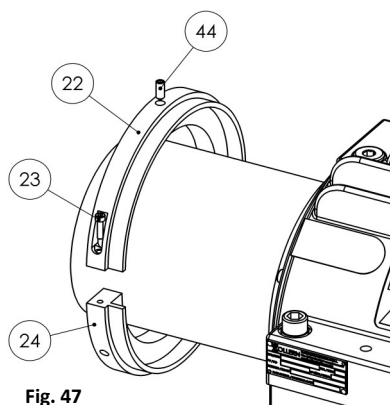

Fig. 47
- Screw the bolt at the split line completely (Fig. 47).
- Screw the lock bolt (44) placed around the dust flinger.